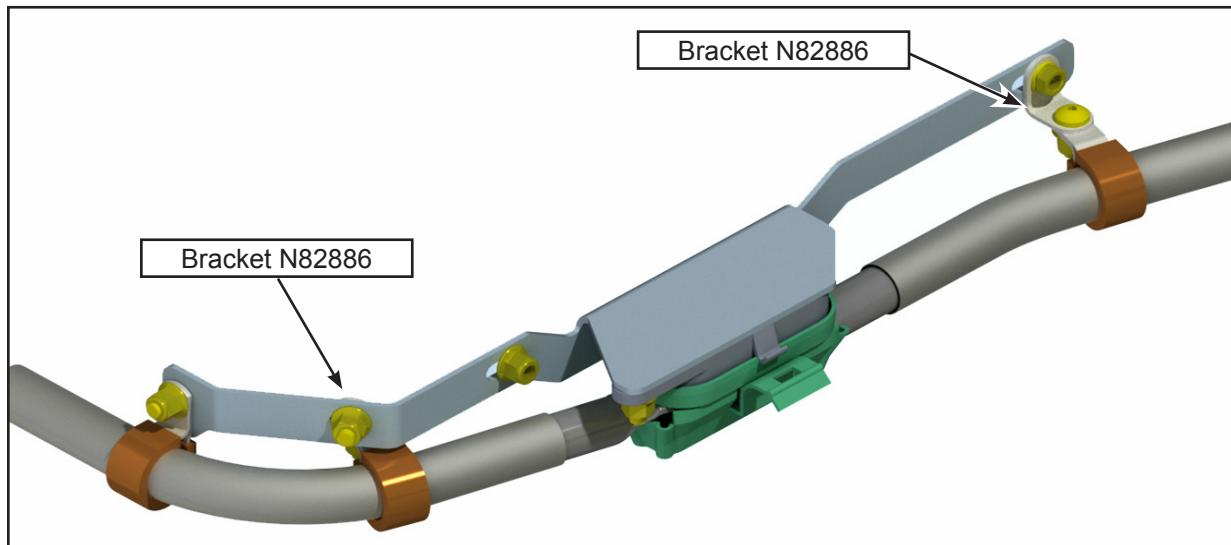

Figure 6 - Install Brackets and Cables
1.4. Install N82873 fuse holder bracket assembly and route cables with hardware as shown in Figures 6 and 7. ❖